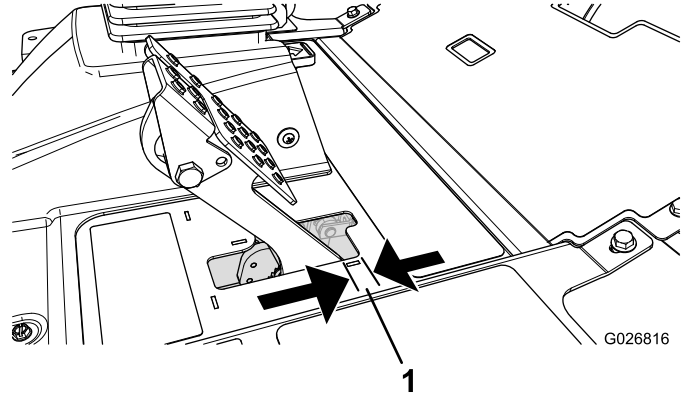

Figure 66
Adjust the brakes when there is more than 2.5 cm (1 inch) of free travel (Figure 66) of the brake pedal, or when more holding force is required. Free travel is the distance the brake pedal moves before you feel braking resistance.
2. Tighten the rear nut to move the cable backward until brake pedals have 6 to 13 mm (1/4 to 1/2 inch) of free travel (Figure 66), before wheel lock-up is achieved.